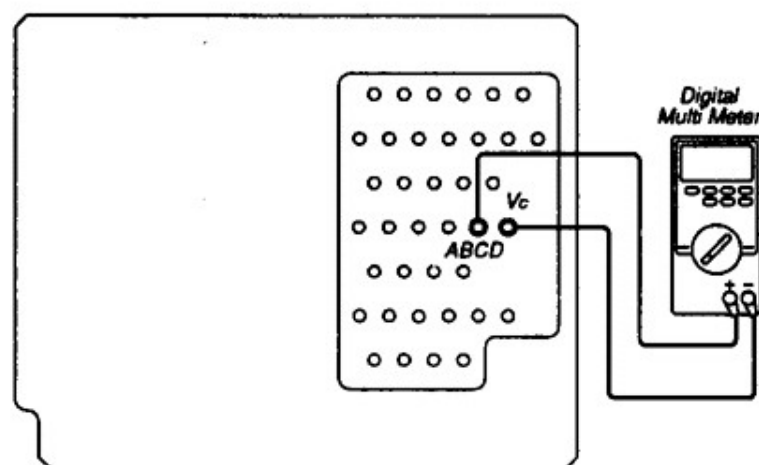

Fig. 5-2-4 (a) FOK Offset Adjustment
g. Focus Error (FE) Offset Adjustment
- g.-2 Connect probe (common) of Digital Multi Meter to Vc (AP1013) and probe (plus) to FE-O (AP5070) on the pin board. (Refer to Fig. 5-2-4 (b))